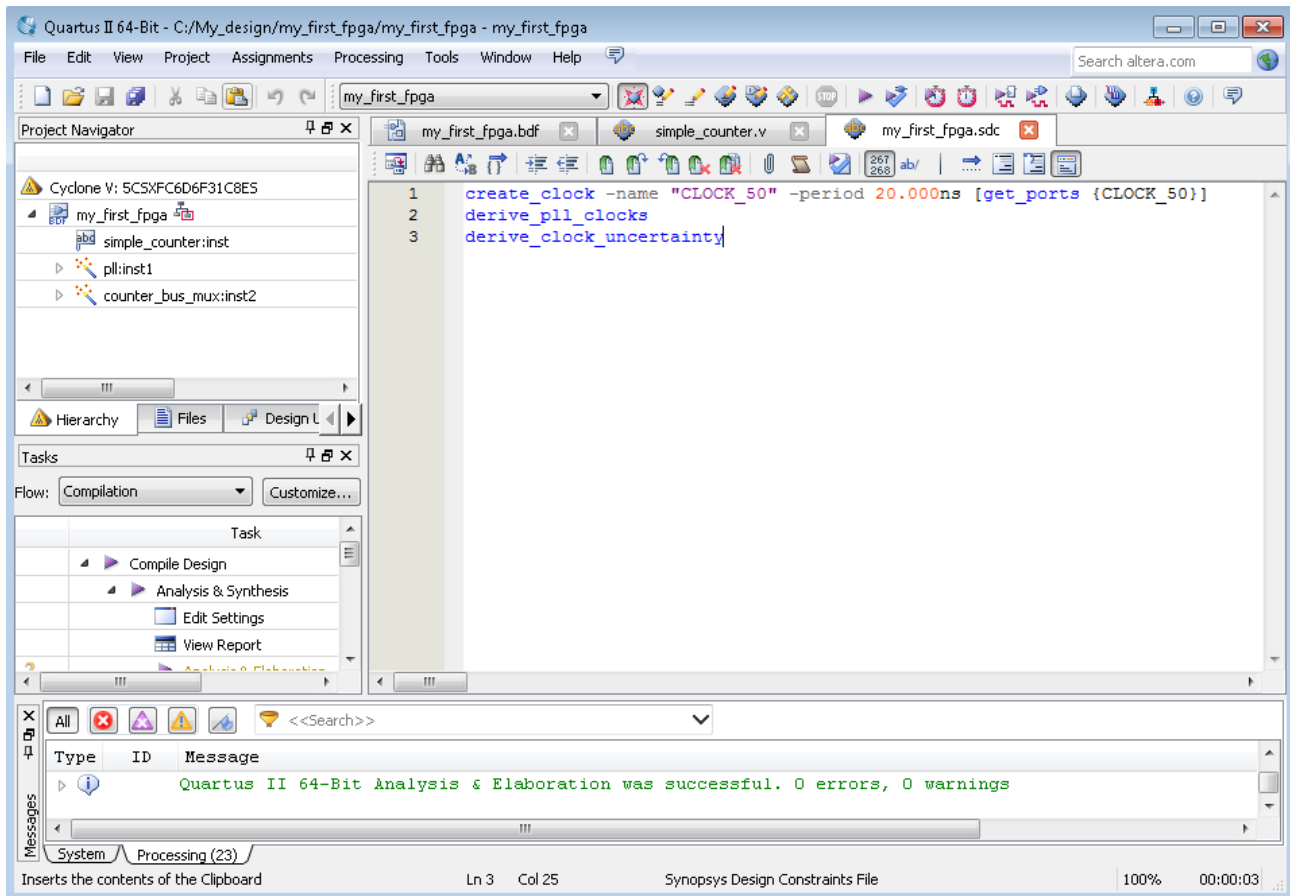

Figure 3-34 Default SDC
4. Save this file as my_first_fpga.sdc (see Figure 3-34)